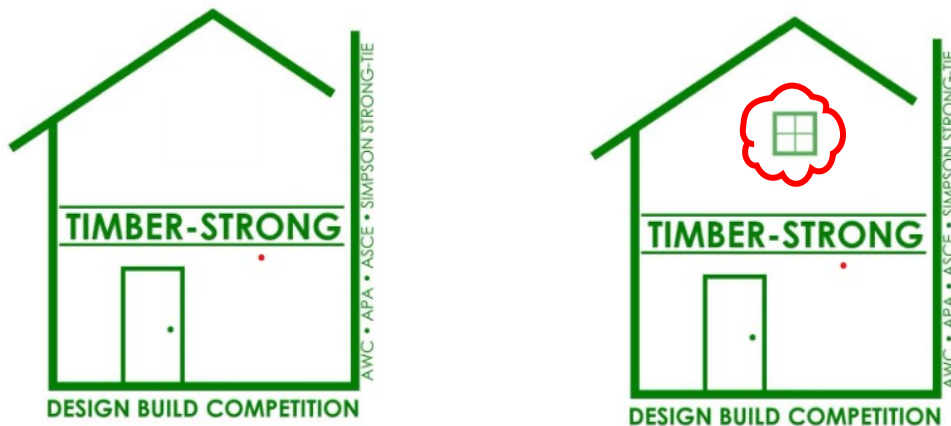

Figure 5: Example of clouded change
4. Newly altered plan/details must show area that will be changed with a cloud area for reference (see **Figure 5**).